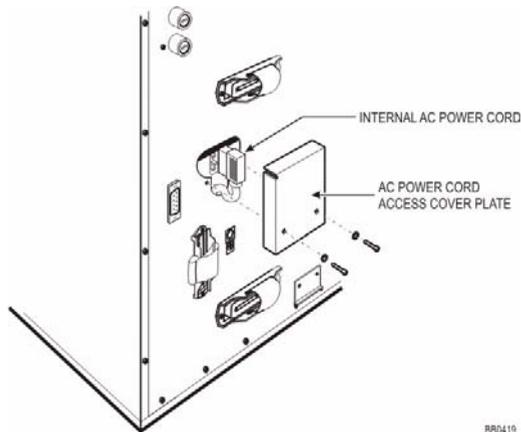

Figure 8: Peripheral Cabinet AC Power Cord Access
1. At the rear of the cabinet, remove the two screws that fasten the internal AC power cord access cover plate to the backplane, and remove the cover plate (see Figure 8).
2. Ensure that the switch on the power converter faceplate is set to off (0).